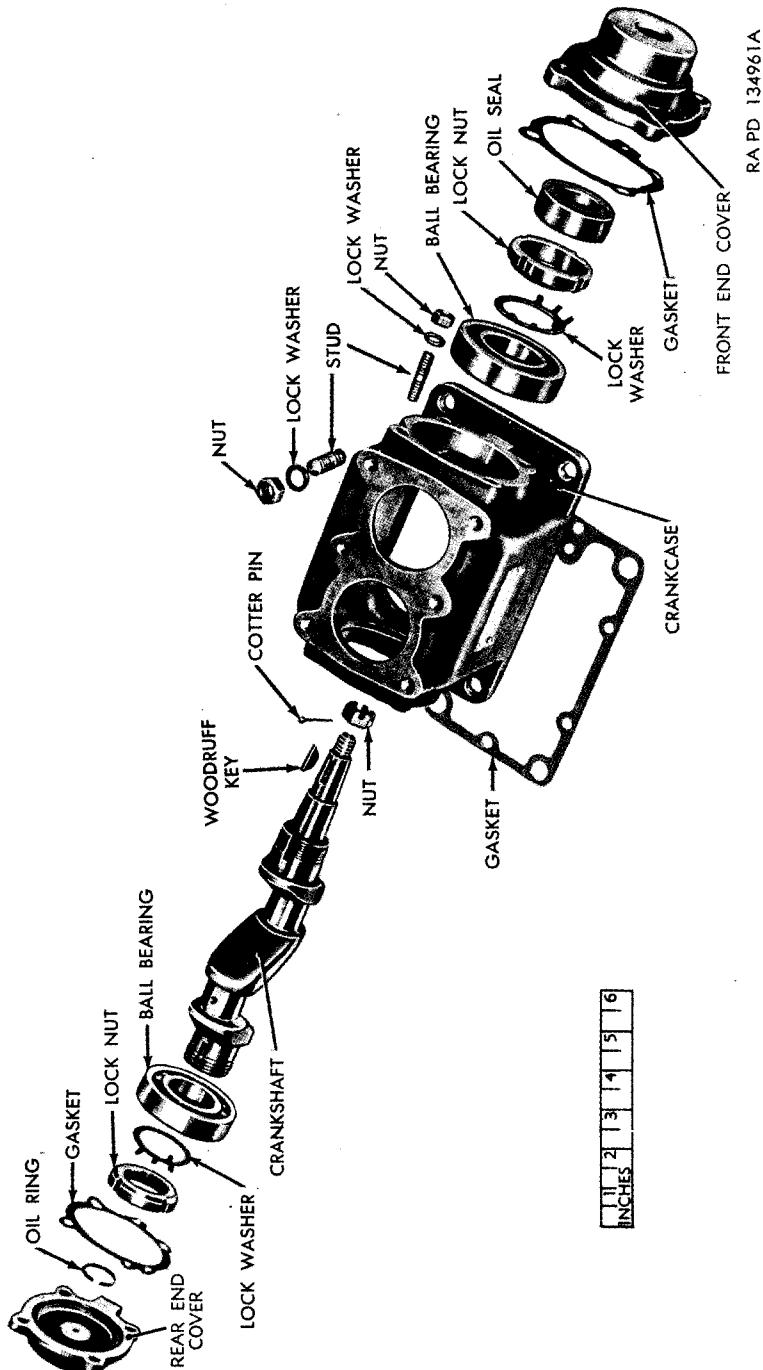

Figure 40. Crankcase section of a two-cylinder compressor—exploded view.
(3) *Repair.* No repair is permissible on pistons and connecting rods except replacement of parts, which is covered in (2).
a. *Cleaning and Inspection* (fig. 40).
- (1) Position ball bearings and crankshaft in crankcase (fig. 40), being sure the drive end of the crankshaft is positioned at the
(2) If the crankshaft is fitted with oil seal rings, install rings. If compressor assembly includes a special lock washer and lock nut at either or both ends of the crankshaft, install lock washers and lock nuts and tighten lock nuts (fig. 40). Then bend one lug on each lock washer into one of the slots in each lock nut to prevent lock nut from becoming loose. The use of these
c. *Installing End Cover.* Place a new gasket for rear end cover in position over studs on rear end of crankcase (fig. 40), making sure the oilhole in the gasket lines up with the oilhole in the crankcase. If rear end cover includes an oil ring, install oil ring (fig. 40). Then position rear end cover over studs in crankcase (fig. 40), being sure that the oilhole in the rear end cover lines up with oilhole in the gasket and crankcase. Install lock washers and nuts, and secure end cover in place. Install pipe plugs in any oil openings in end cover. If front-end cover includes an oil seal and the oil seal has been removed from the end cover, press a new oil seal into end cover (fig. 40). Install a new gasket (fig. 40). Carefully position the front-end cover so as not to damage the oil seal and install lock washers and nuts, and secure end cover in place.